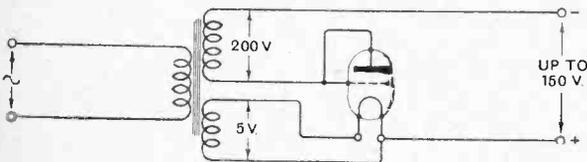

Fig. 1.—Simple form of half-wave rectifier
The most popular form of A.C. battery substitute in use to-day is that in which a two-electrode valve, often a standard receiving valve with the grid and plate pins bridged across, is used as a half-wave rectifier. By means of a transformer with primary connected to the supply mains, a suitable potential is obtained from a step-down secondary for heating the filament of this rectifying valve, while a tertiary winding giving a potential of about 150 to 250 volts is fed to the plate via the output circuit (Fig. 1). A smoothing equipment comprising iron core choke coils of high inductance and bridging condensers of high capacity are, of course, required, and, to be really effective, constitutes the most costly part of the apparatus. The periodicity of A.C. supply is usually 50, and never exceeds 100, cycles, and consequently pulses of unidirectional current are passed on to the smoothing circuit at this frequency. A high-tension potential varying from zero to maximum 50 times
Our rectifier will be connected as in Fig. 1, and the transformer will require four windings, one primary for connecting to the mains (P), two for the rectifier (S₁, S₂), and one for the filaments of the receiving valves (S₃), and we will assume the main supply is at 240 volts 50 cycles. We have now to provide windings giving 5.5 volts for the filaments of the receiving valves, 5.5 volts for the rectifying valves, and 160 + 160 volts for the plate circuit of the rectifier.